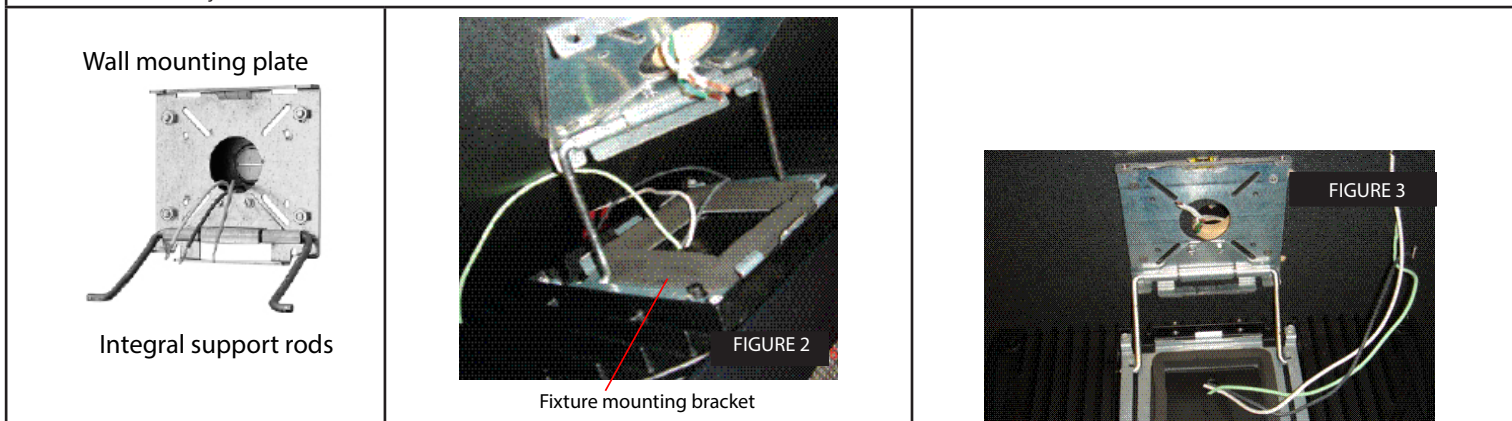

FIGURE 1
1. These steps below are for mounting over a standard recessed junction box. Remove 1/4"-20 screws from mounting plate top and discard. Position mounting plate over j-box. The mounting plate may be attached to the j-box for alignment only, it should not be relied upon for structural support. Ensure integral support rod on mounting plate is in a downward position and bubble level is at the top. Level mounting plate prior to tightening using integral bubble level. Secure to wall using (4) 1/4" diameter fasteners (not provided). See figure 1.
2. Back out the (2) 1/4"-20 x 1/2" hex socket set screws on the bottom of the fixture until flush with the finned backplate to keep from interfering with mounting the fixture.